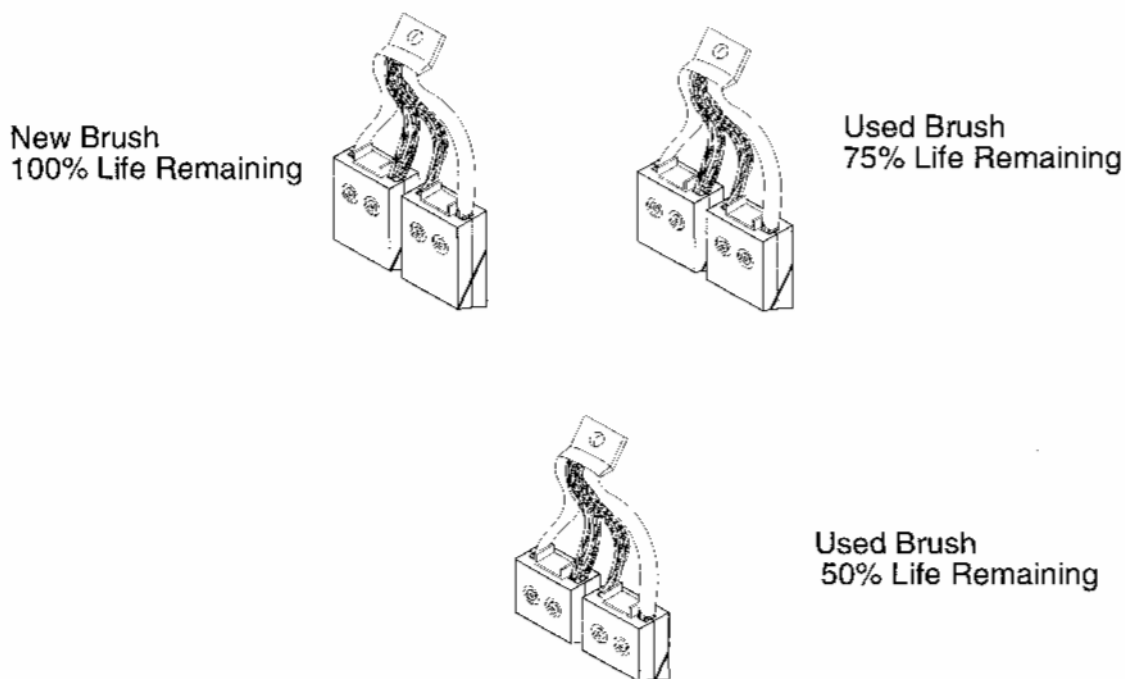

Figure 6 - Brush Wear
- (8) Estimate the remaining life of each brush by comparing the wear line with the illustrations in Figure 6.
- (9) If the remaining life of any brush is less than the next service interval, replace all the brushes as a set. If any brush is damaged, replace all brushes as a set.